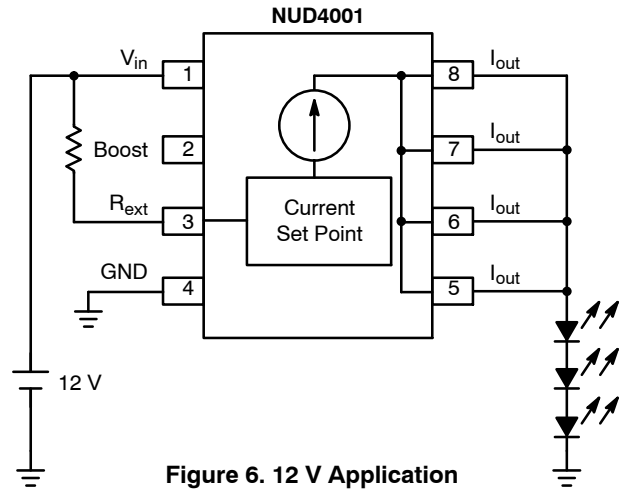

Figure 6. 12 V Application (Series LED's Array)
- a. Per example in Figure 6, $V_{in} = 12 \text{ V}$
- a. Per example in Figure 6, $V_{LED} = 3.5 \text{ V} + 3.5 \text{ V} + 3.5 \text{ V} = 10.5 \text{ V}$